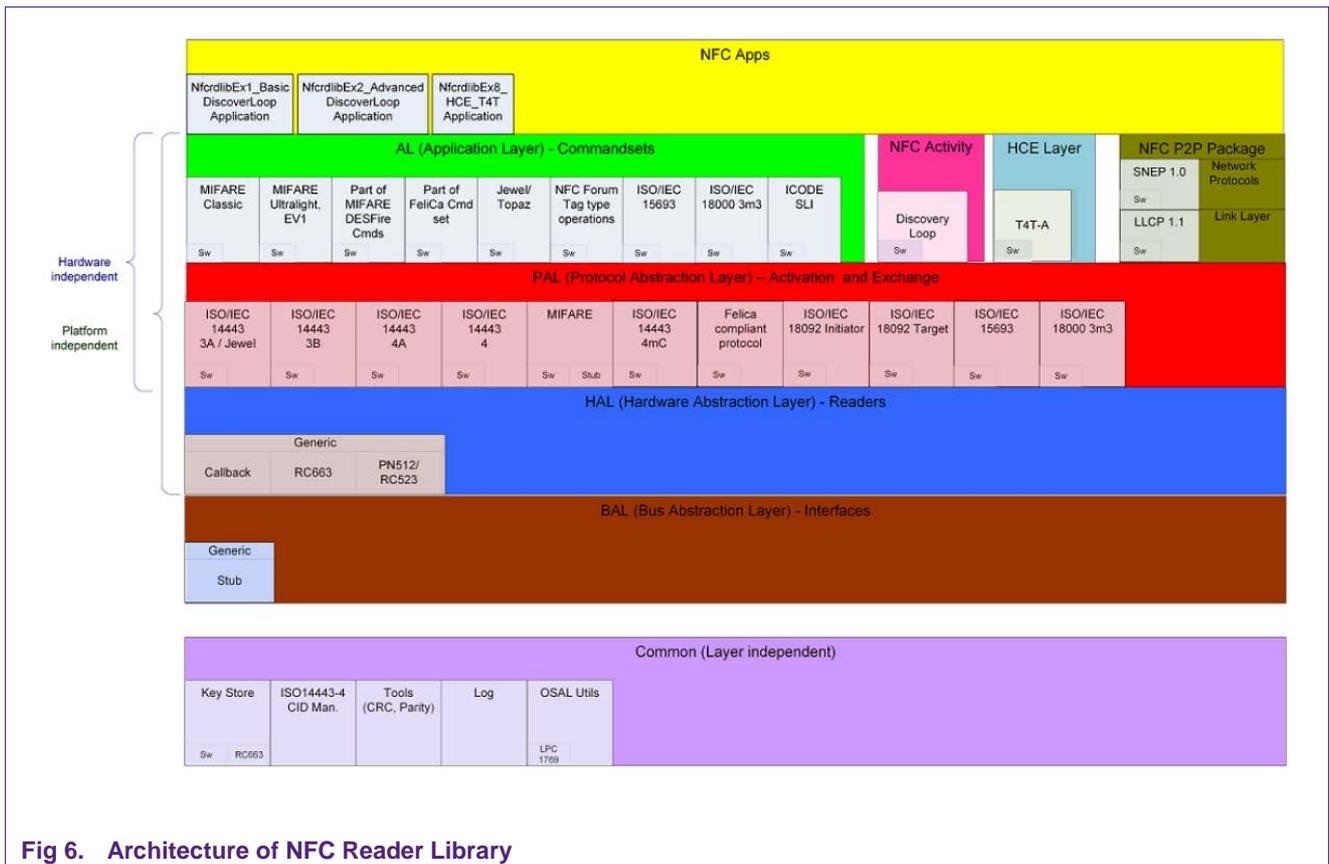

Fig 6. Architecture of NFC Reader Library
- Fig 6. Architecture of NFC Reader Library 12